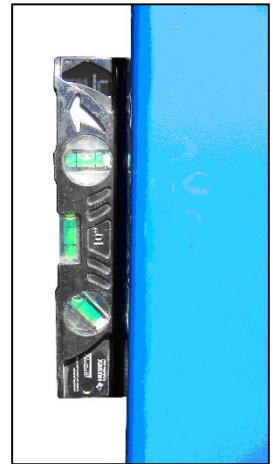

Fig. 6
6. Using a level, check column plumb for every side **(Fig. 6)**. If shimming is required, use supplied Shim stock or 3/4" washers, placing shims as close as possible to the hole locations. This will prevent bending column bases.